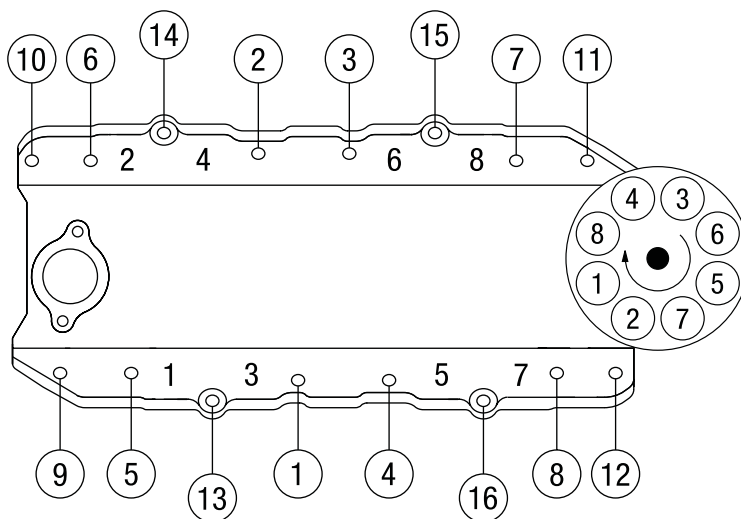

Figure 1 - Intake Manifold Bolt Tightening Sequence
WARNING: There is no gasket support for the manifold under the four bolt holes which are numbered 13, 14, 15, and 16 in **Figure 1** below. Damage to the manifold will occur if these four bolts are over tightened. Hand tighten these bolts with a 6" box-end wrench. DO NOT use a torque wrench.
6. Torque all of the remaining manifold bolts in two steps by the sequence shown in **Figure 1** to 25 ft./lbs.